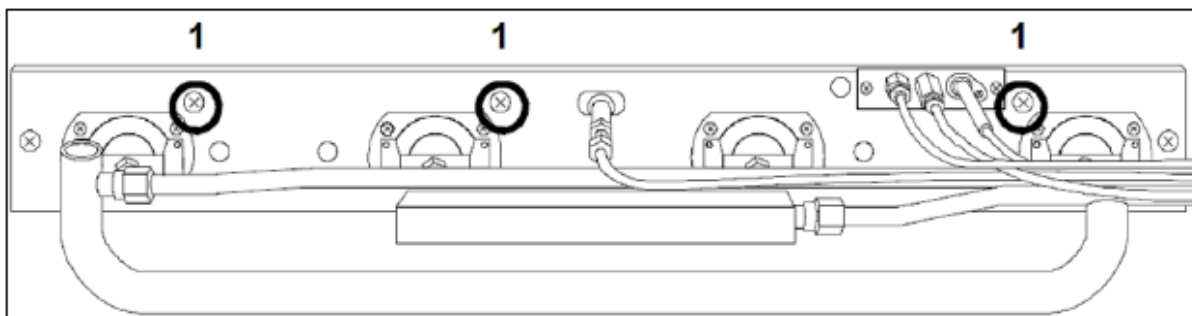

FIG.17
- Unscrew the 3 screws that hold the burner support in place (FIG.17-Ref.1);